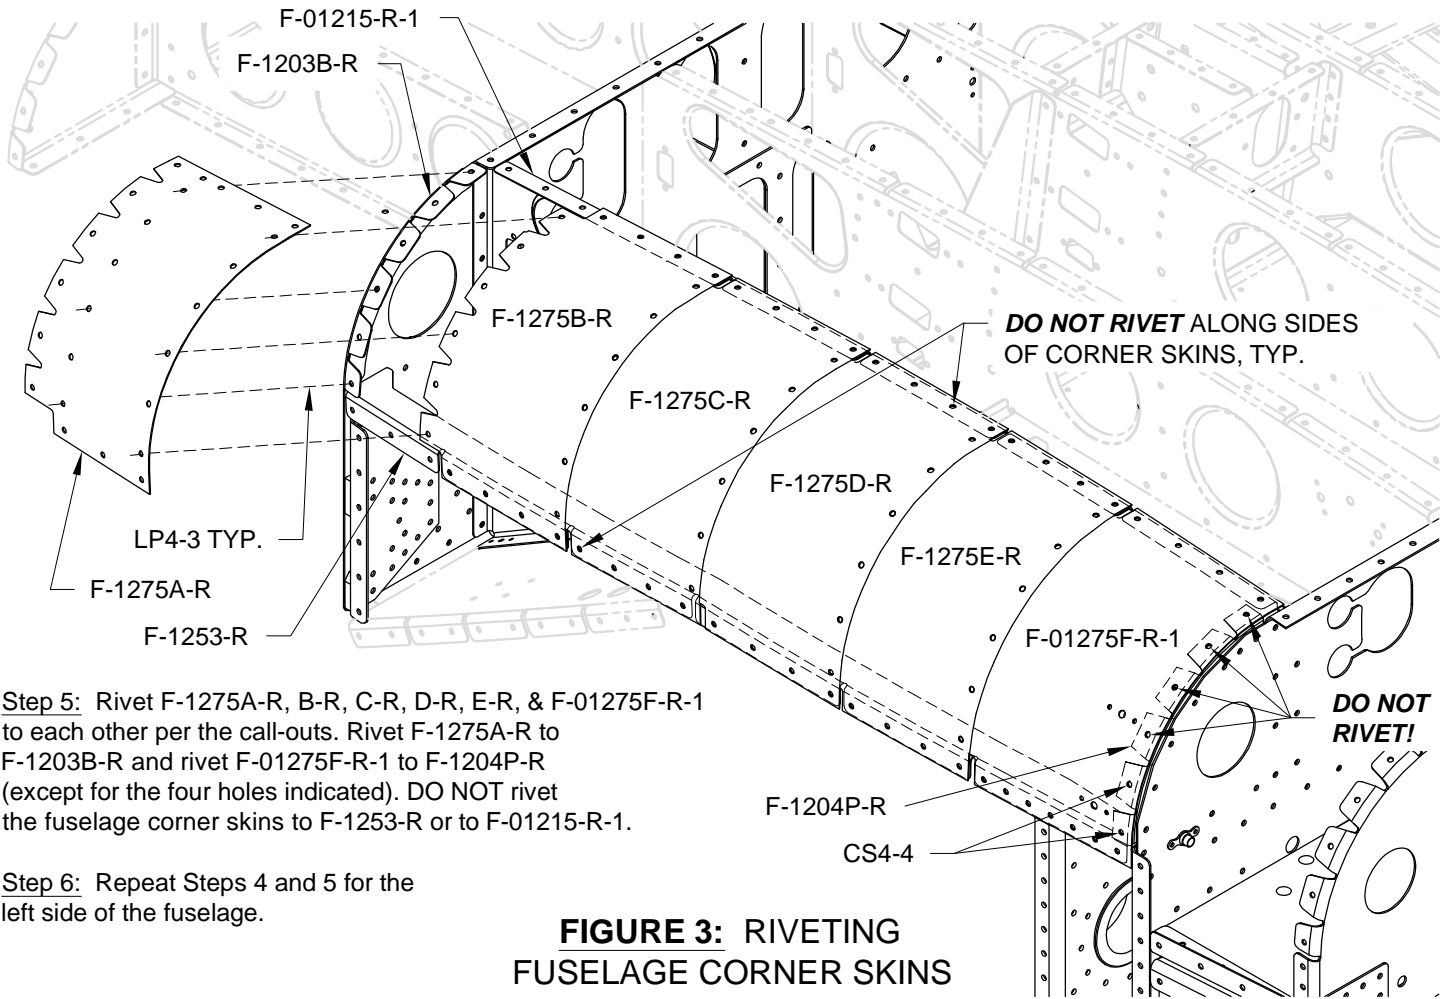

FIGURE 3: RIVETING FUSELAGE CORNER SKINS
Step 4: Turn the fuselage upside-down on saw horses. Cleco F-01275F-R-1 to F-1253-R, F-01215-R-1, and F-1204P-R. See Figure 3. Then one after the other cleco in place F-1275E-R, D-R, C-R, B-R, & A-R as shown.